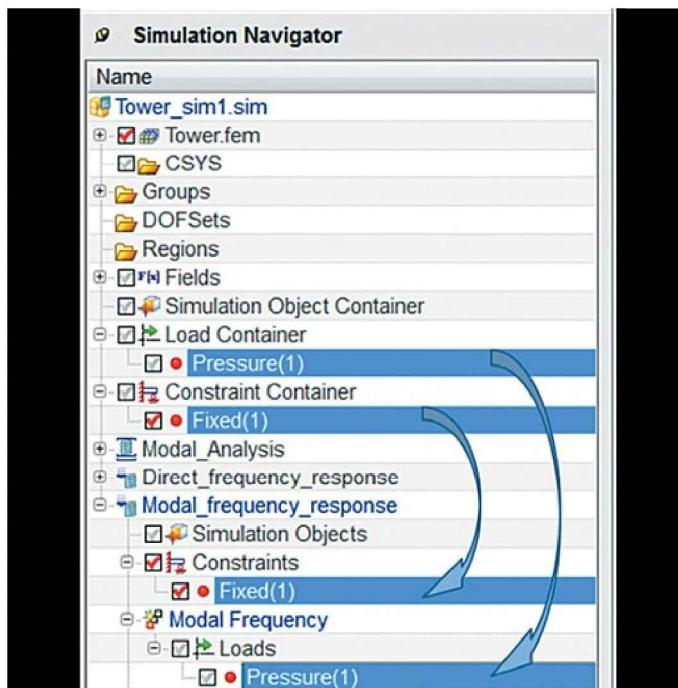

Figure 3.30. Specifying boundary constraints
To specify boundary constraints, in the model tree of the Simulation Navigator tab, expand the *Constraint container* node and drag the previously created *Fixed(1)* constraint into the *Constraints* node of the *Modal_frequency_response* solution (Figure 3.30). In a similar way, drag the *Pressure (1)* load into the *Loads* node of the *Modal_frequency_response* solution.